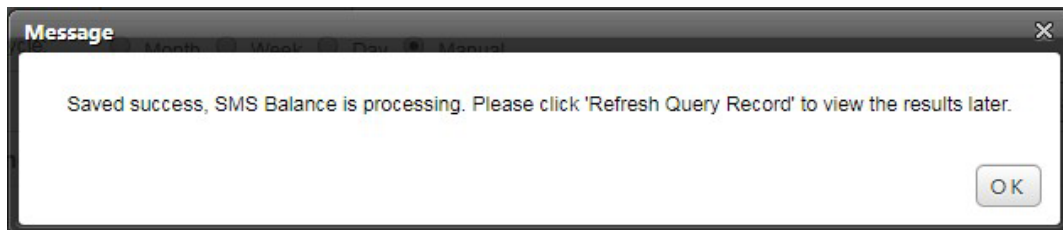

Figure 3-61 Saved successfully
1) According to the operator actually used to fill carrier number and business code, select query cycle, click Save and inquiries; following dialog box appears, as shown in Figure 3-61.